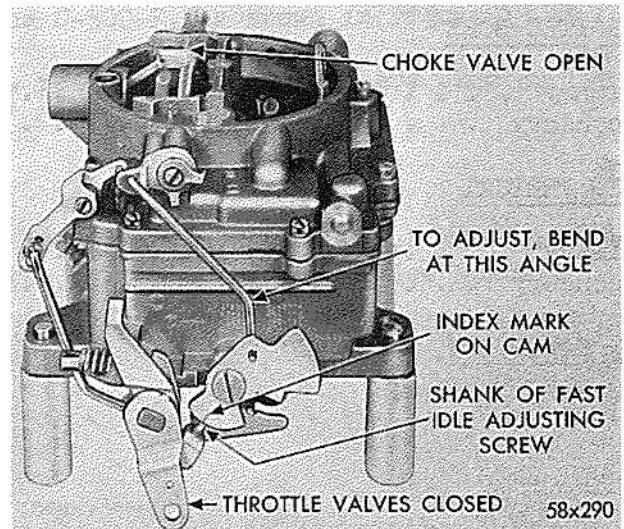

Fig. 7 - Indexing Fast Idle Cam
(2) Invert the carburetor and open the throttle valves to wide open position. Close the choke valve tightly and then close the throttle valves. Release the choke valve. This will position the fast idle cam to fast idle. The index mark on the cam should line up with the center of the fast idle adjusting screw, as shown in Figure 7.